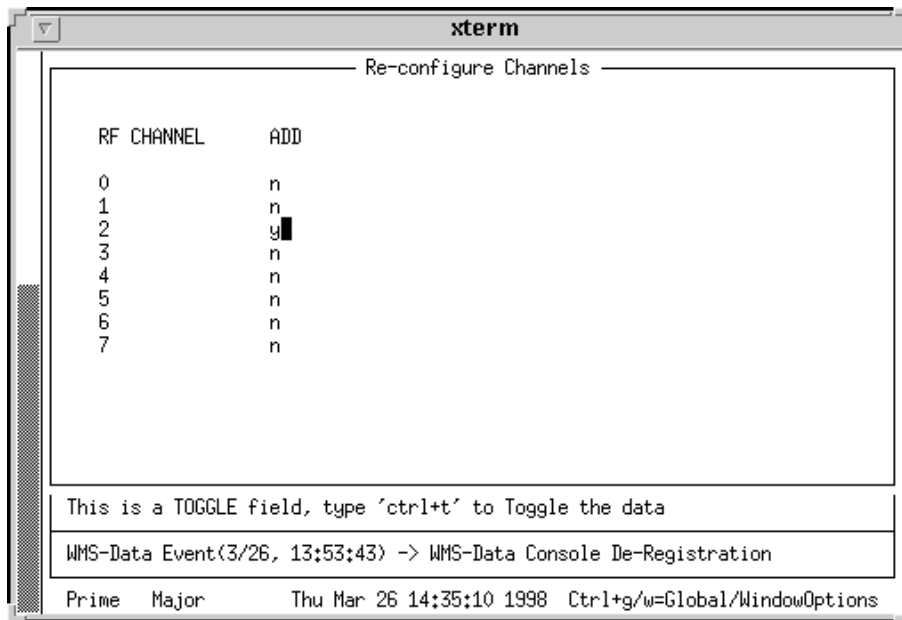

Figure 7-7: Re-Configure Channels Screen
6. To re-configure all channels, use the <tab> to position the cursor to the left of the listing and press: <Return>. The Re-Configure Channels screen appears (see Figure 7-7).